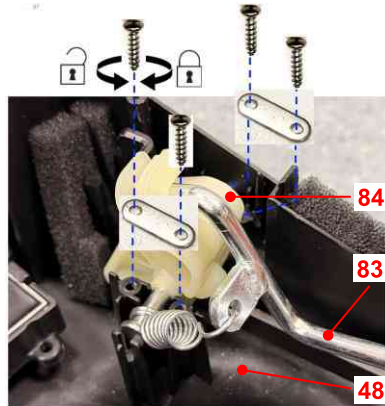

Fig. 29
3. Remove the 4 screws and 2 fixing plates to disassemble the linkage assembly (84) from the bottom housing (48) (Fig. 29).